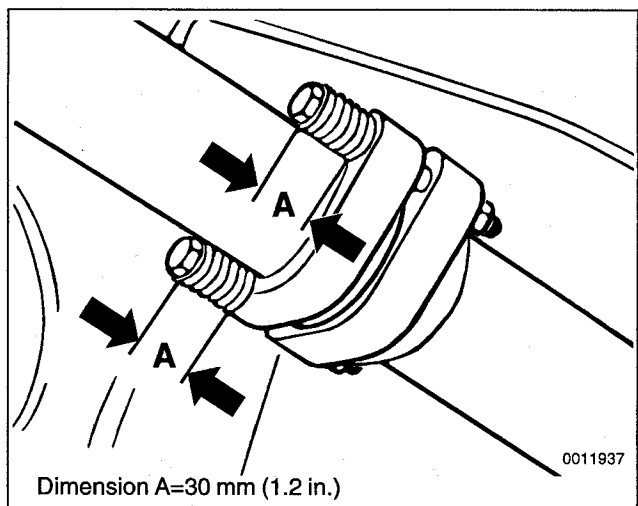

Fig. 8. On 4-cylinder engines, tighten nuts evenly so that springs are preloaded to **Dimension A**.
- On 4-cylinder engines: Tighten center mounting flange nuts evenly until correct dimension is obtained. See Fig. 8.
- Front exhaust pipe to rear pipe M8 bolt/nut 22 Nm (16 ft-lb) with compression spring. See Fig. 8